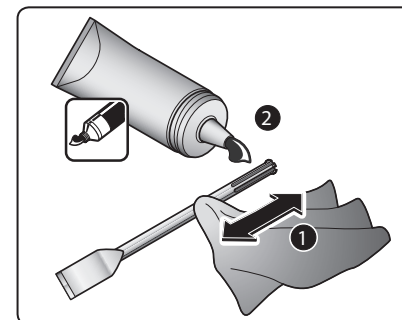

Fig. 2
- Thoroughly clean the SDS shank of the tool, dry it if necessary and lubricate sufficiently using **Vaseline**, see fig. 2.